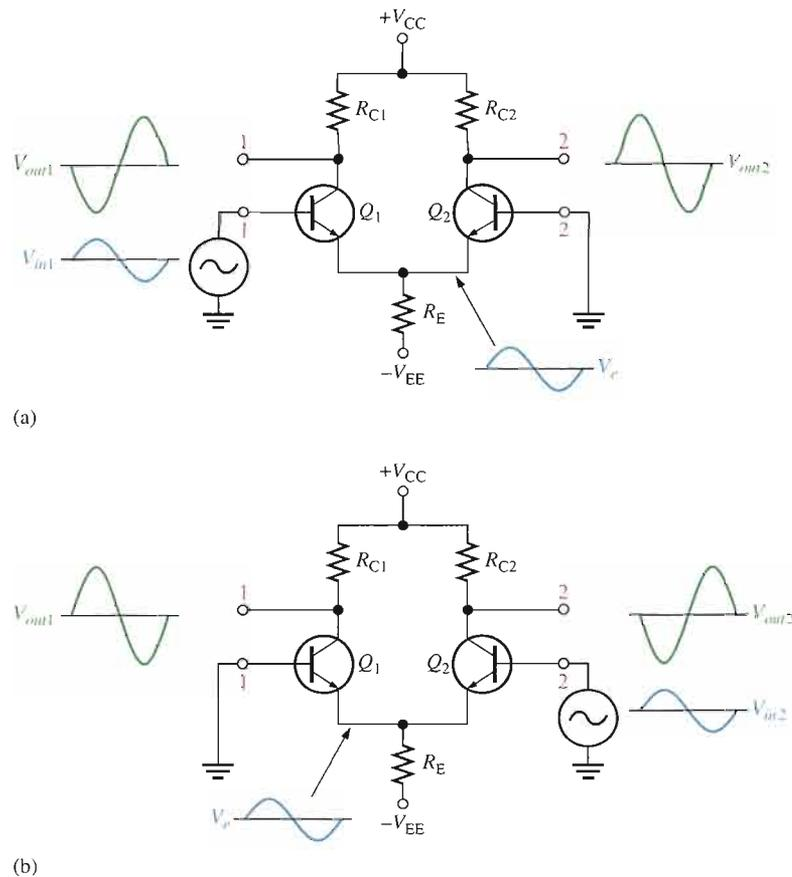

FIGURE 6-38
**Single-Ended Input** When a diff-amp is operated in this mode, one input is grounded and the signal voltage is applied only to the other input, as shown in Figure 6-38. In the case where the signal voltage is applied to input 1 as in part (a), an inverted, amplified signal voltage appears at output 1 as shown. Also, a signal voltage appears in phase at the emitter of  $Q_1$ . Since the emitters of  $Q_1$  and  $Q_2$  are common, the emitter signal becomes an input to  $Q_2$ , which functions as a common-base amplifier. The signal is amplified by  $Q_2$  and appears, noninverted, at output 2. This action is illustrated in part (a).
In the case where the signal is applied to input 2 with input 1 grounded, as in Figure 6-38, an inverted, amplified signal voltage appears at output 2. In this situation,  $Q_1$  acts as a common-base amplifier, and a noninverted, amplified signal appears at output 1. This action is illustrated in part (b) of the figure.